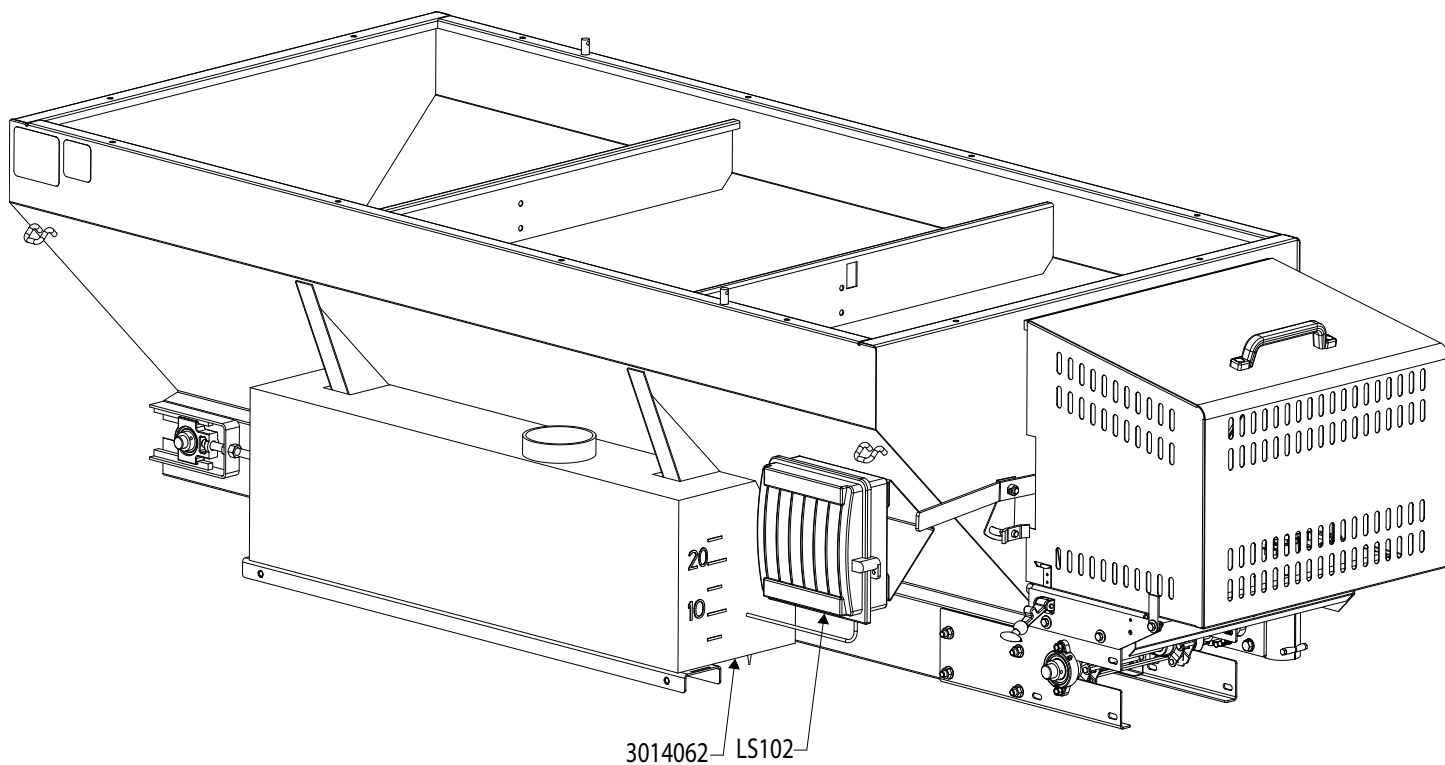

Fig. 2
- 2.** Position 30 gal. Tank (#3014062) on support as show in Fig.2
- 3.** Attach Enclosure Assembly (#LS102) to Enclosure Bracket using provided hardware as show in Fig.2.